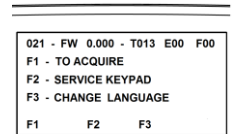

Fig. 3
- Press the key associated with the **F1** symbol within 10 seconds (Fig.3). Another screen will appear (Fig.4).